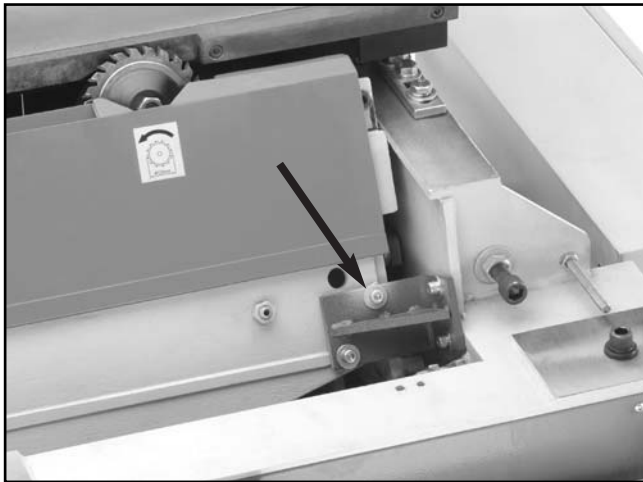

Figure 24. Blade tilt shipping brace.
1. Remove the red shipping brace, shown in **Figure 24**, from the blade tilt mechanism.